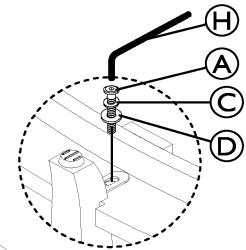

Figure 2
3. Attach bottom shelf to the legs using Bolt (A), Lock Washer(C), Flat Washer (D) and using Allen Key(H) (Do not tighten completely yet). As shown in Figure 2.
4. Tighten all bolts using Wrench(G) and Allen Key(H) After completing step 3.